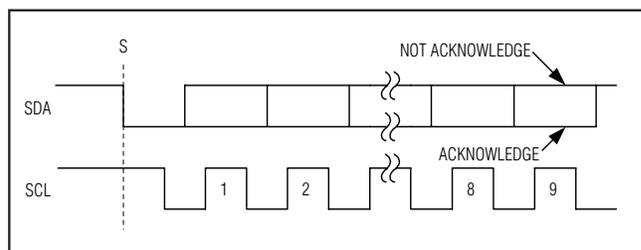

Figure 6. Acknowledge Bits
Data transfers are acknowledged with an acknowledge bit (A) or a not-acknowledge bit (A̅). Both the master and the MAX1136-MAX1139 (slave) generate acknowledge bits. To generate an acknowledge, the receiving device must pull SDA low before the rising edge of the acknowledge-related clock pulse (ninth pulse) and keep it low during the high period of the clock pulse (Figure 6). To generate a not-acknowledge, the receiver allows SDA to be pulled high before the rising edge of the acknowledge-related clock pulse and leaves SDA high during the high period of the clock pulse. Monitoring the acknowledge bits allows for detection of unsuccessful data transfers. An unsuccessful data transfer happens if a receiving device is busy or if a system fault has occurred. In the event of an unsuccessful data transfer the bus master should reattempt communication at a later time.